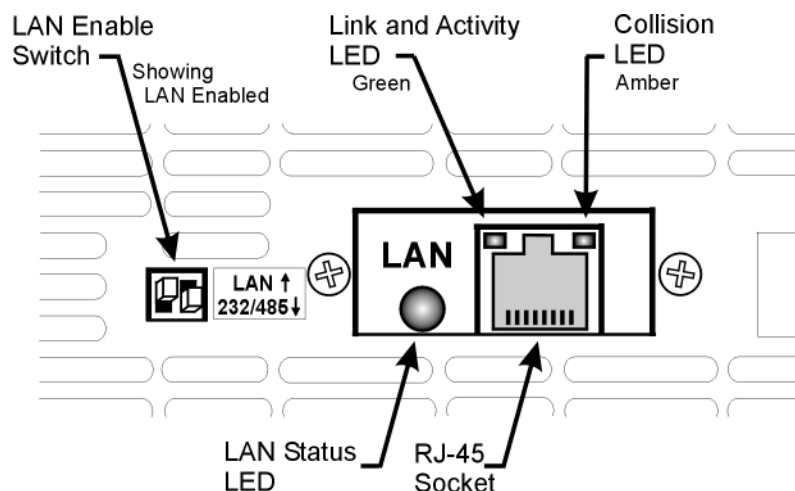

Figure 3. Rear Panel LAN Features
- B. Set the LAN card switch pin1 to DOWN (see Figure 3)
2. Set LAN card rear panel switch to UP (see Figure 3)
5. **In about 15 seconds (for DHCP and static IP), or 40 seconds (for auto-IP),** see on the rear-panel: (see Figure 3)